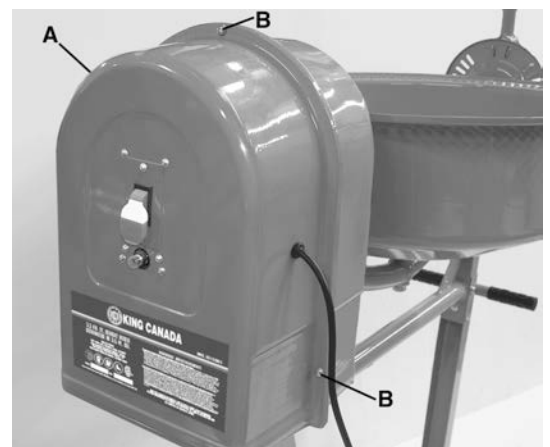

FIGURE 14
1. Mount the motor housing cover (A) Fig.14 to the motor housing using 5 medium sized hex. bolts, washers and flange hex. nuts (B).